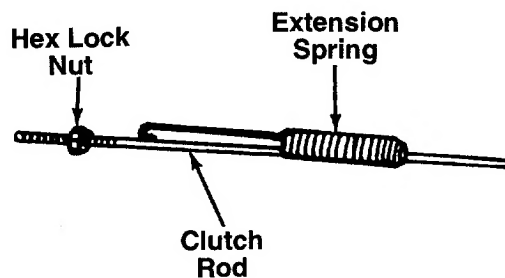

FIGURE 10.
2. Slide the extension spring onto clutch rod as shown in figure 10. Thread hex lock nut onto clutch rod approximately 2 1/2 inches.